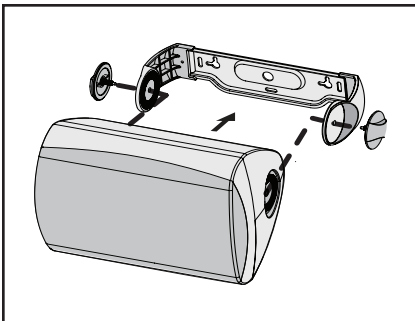

Figure 5. Mounting speaker on the U-bracket.
4. Pull the bracket slightly apart and fit the speaker into the bracket, one end at a time to avoid scratching the enclosure (figure 5).